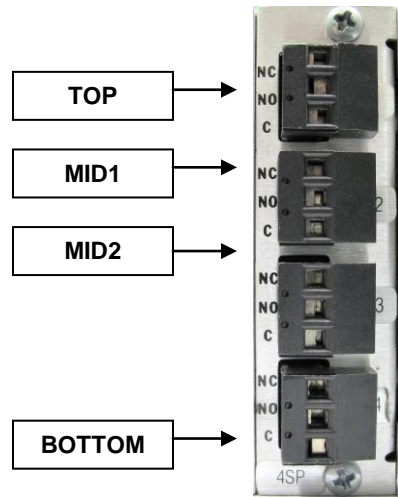

Fig. 3.5 - Rear Panel of the Setpoint Relay Module
**SETPOINT RELAY MODULE** - The rear panel of the setpoint process control relay module is shown in Fig. 3.5. Three (3) terminals are available for each of the four (4) relays. These are NC (Normally Closed), NO (Normally Open) and C (Common).